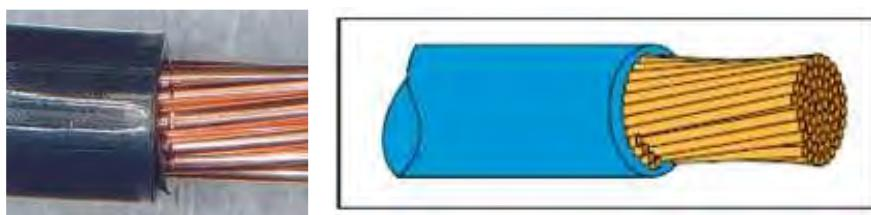

Figure 193
g. Broken, nicked, or cut strands as listed below and shown in Figure 193.